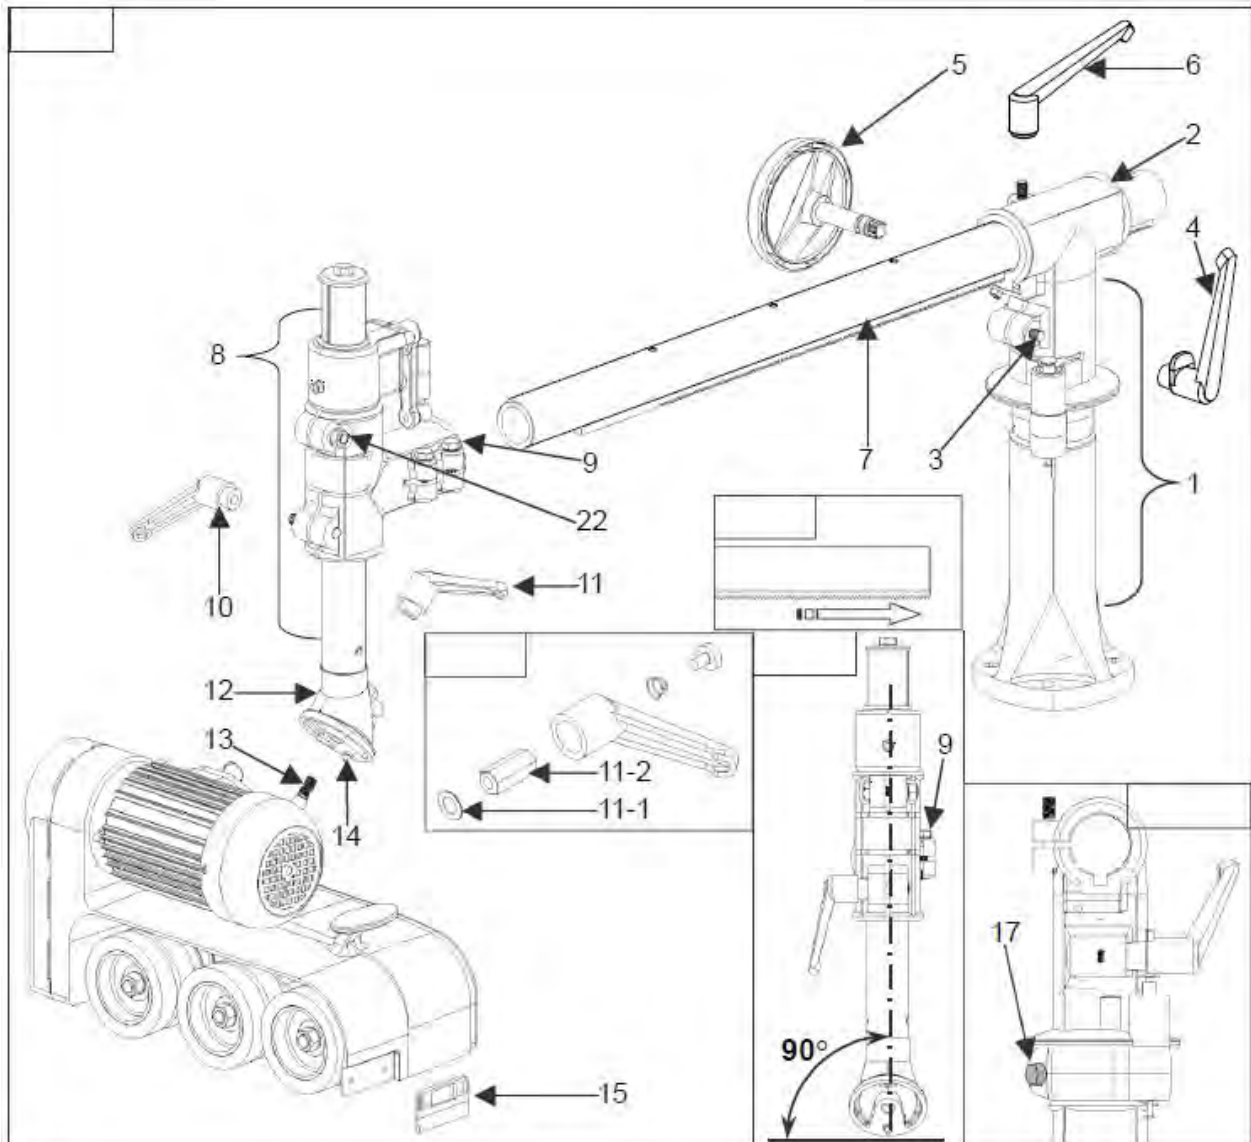

Fig. 15: Assembly, Models VSA 300 and VSA 400
Step 1: Fasten the tripod base and the cross holder (Pos. 1, Fig. 15) to the table as described under „Fitting the tripod“.
Step 2: Attach the handwheel (Pos. 5, Fig. 15) and the handle (Pos. 6, Fig. 15). Do not tighten the handle.
Step 3: Slide the horizontal boom tube (Pos. 7, Fig. 15) into the cross bracket joint (Pos. 2, Fig. 15) and secure with the handle (Pos. 6, Fig. 15).
Step 4: Remove the hex nut (Pos. 3, Fig. 15). This nut is for easier and safer assembly only.
Step 5: Loosen the self-locking nut (Pos. 17, Fig. 15).
Step 6: Adjust the horizontal boom tube (Pos. 7, Fig. 15). Retighten the nut (Pos. 17, Fig. 15) and fit the handle (Pos. 4, Fig. 15) (replaces nut (Pos. 3, Fig. 15)).
Step 7: Fit the holding device (Pos. 8, Fig. 15) onto the horizontal boom tube (Pos. 7, Fig. 15).
Align the vertical holding device **90°** to the table surface. Then tighten the nut (Pos. 9, Fig. 15) firmly.
Step 8: Assemble the handle (Pos. 11, Fig. 15).
Step 9: Assemble the feed to the joint from the vertical boom tube (Pos. 12, Fig. 15), using the threaded rod (Pos. 13, Fig. 15) and spring button (Pos. 14, Fig. 15). Press the feed against the joint (Pos. 12, Fig. 15) while attaching the handle (Pos. 11, Fig. 15) with the washer.
Step 10: Attach the handle (Pos. 11, Fig. 15) and tighten firmly.
Screw (Pos. 22, Fig. 15) is pre-tensioned. The pressure is required for rotation!
Step 13: Tighten all screws and handles. **Pressure screw (Pos. 22, Fig. 15) is not tightened!**